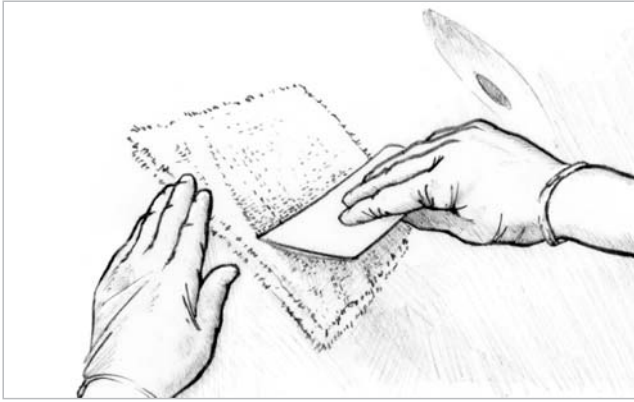

Figure 4-3 Smooth the wet-out fabric against the waxed panel to laminate a backer that matches the panel contour.
4. Place the wet-out fabric against the waxed panel (*Figure 4-3*). Use a spreader to smooth the cloth against the panel and remove excess epoxy. The paste wax will prevent the cloth from becoming bonded to the panel. If the hole is in a flat or moderately curved area of the panel, the backer can be laminated on the flat table. The cured backer should be flexible enough to conform to a moderately curved panel. Allow the backer to cure thoroughly.